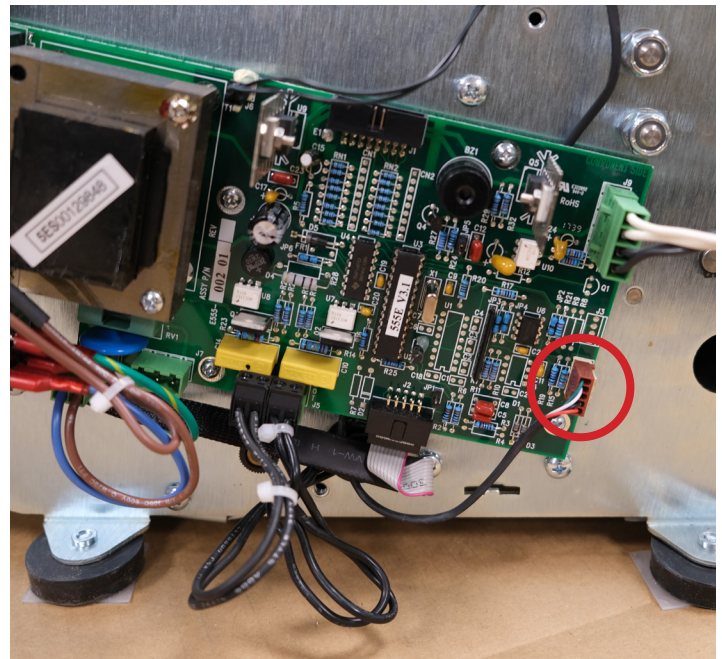

Figure 2
7. Unplug sensor from controller board (Figure 2)